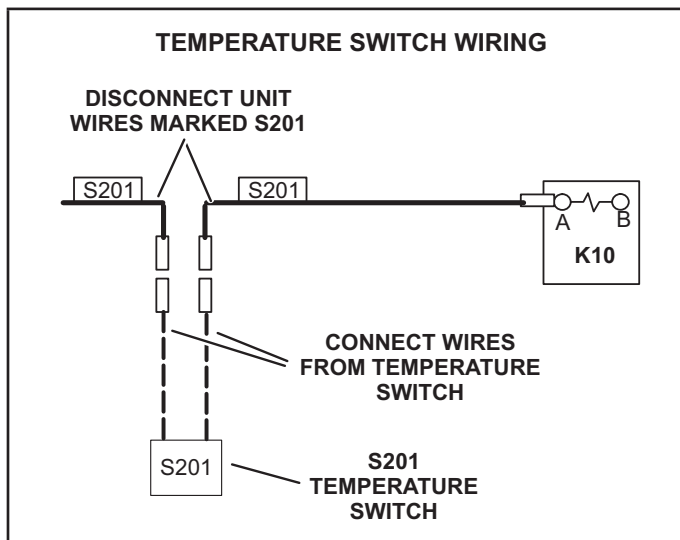

FIGURE 4
- 3 - Make wiring connections as shown in FIGURE 4.